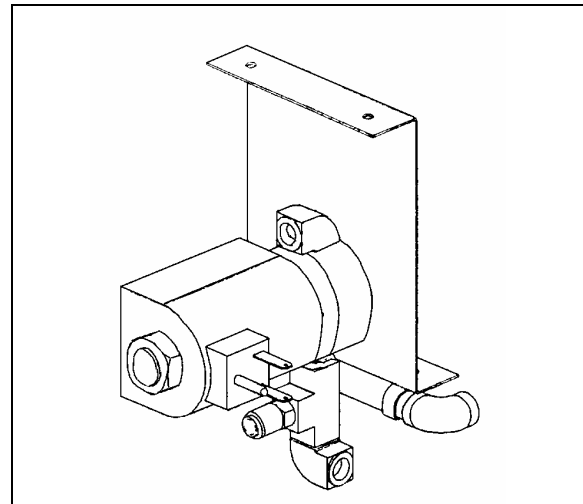

FIGURE 33: AIR HORN VALVE
maintenance after raising the appropriate access panel at the front of the coach (refer to figure 33).
Depress the upper windshield wiper switch located on the dashboard L.H. side to the first position for intermittent wiping, and to the second position for continuous wiping (item 1, fig. 33).
8. Connect the windshield washer tubing at the base of the wiper arm (Fig. 33 and 37);
5. Install the right wiper arm in its normal position (in the middle of the windshield (Fig. 33)). Refer to paragraph "9.2.1 Sweep Adjustment".
3. Install the left wiper arm in its normal position (in the middle of the windshield (Fig. 33)). Refer to paragraph "10.2.1 Sweep Adjustment".
5. Install the right wiper arm in its normal position (in the middle of the windshield (Fig. 33)). Refer to paragraph "10.2.1 Sweep Adjustment".